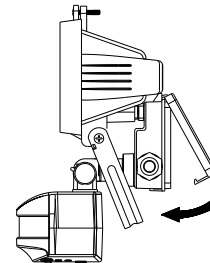

FIGURE 12
- (8) Use the pressure block to fix the power cord by fastening its two screws. Tighten the cable gland and close the wiring box cover. (FIGURE 12)